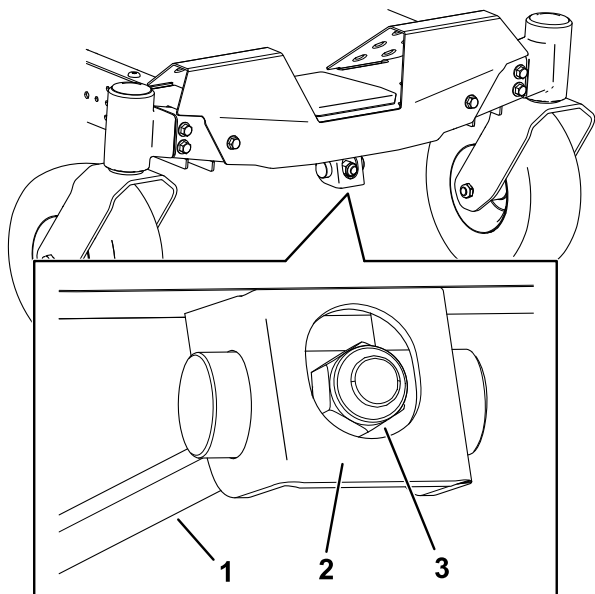

Figure 72
1. Rotate the adjustment nut in the front of the mower (Figure 72).